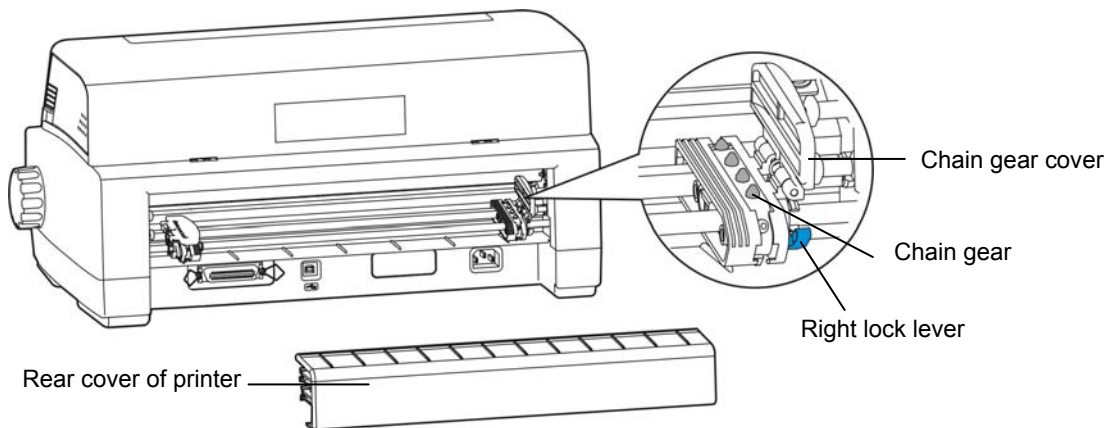

Figure 3-5 Remove the rear cover of printer
6. If the paper is crinkle, please adjust the right lock lever to the suited position. (Show as figure 3-5)